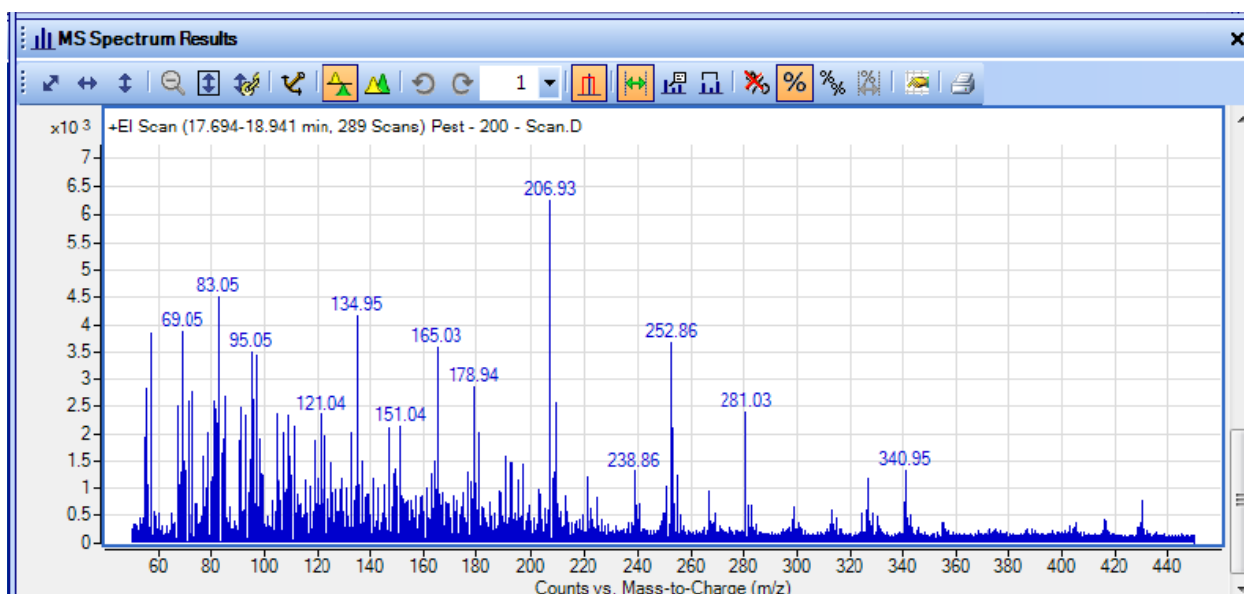

Fig.9
- To view the mass spectrum: Place the mouse cursor over the appropriate retention time on TIC and double-click the right mouse button. The mass spectrum will appear in the lower window (Fig.9).